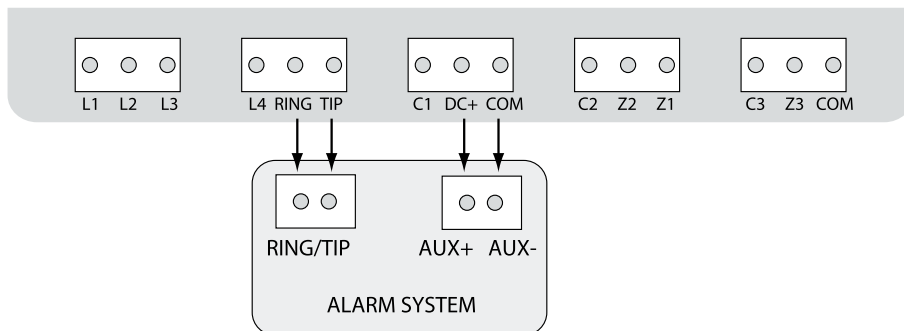

Figure 7
1. Connect the circuit as indicated in Figure 7 – connect telephone contacts of the alarm system RING/TIP to RING/TIP contacts of the communicator.